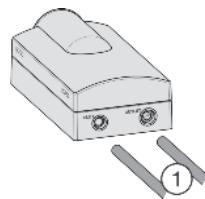

Fig. 60
- ▶ On the thin hose, measure the insertion depth (E) of 21/32 " (17 mm) and mark it.
- ▶ On the thick hose, measure the insertion depth (E) of 25/32 " (20 mm) and mark it.
- ▶ Insert the hoses *Fig. 60 (1)* all the way into the water filter module (i.e., up the the mark you made), past the point of resistance.